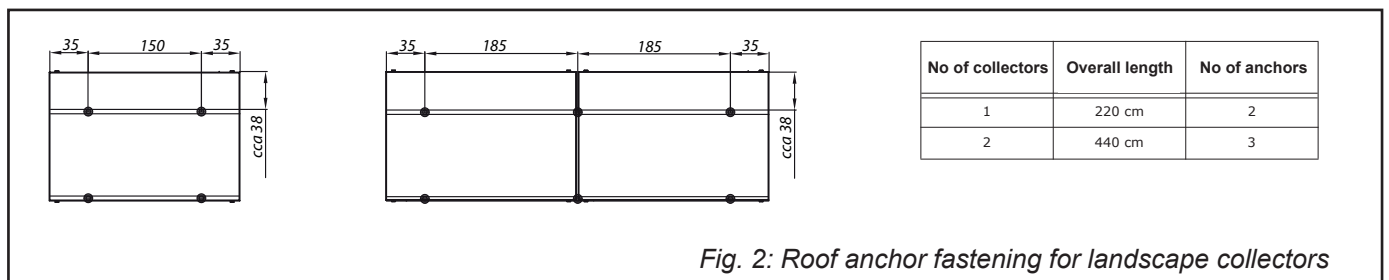

Fig. 2: Roof anchor fastening for landscape collectors
- Fit the auxiliary boards to battens so that the distribution of anchors resembles the positions in Fig. 2. At the same time screw the boards so high that the roof
- Hang the roof anchors onto the auxiliary board respecting their distribution shown in Fig. 2.
- Remove roofing in places where anchors shall be fitted (Fig. 5). The distance “a” between anchors is defined in Fig. 2.
- Depending on the number of collectors, measure and calculate the positions for fitting roof anchors (Fig. 2). Such places shall be selected for mounting where anchors can be fastened sufficiently into the roof frame (rafter or similar).